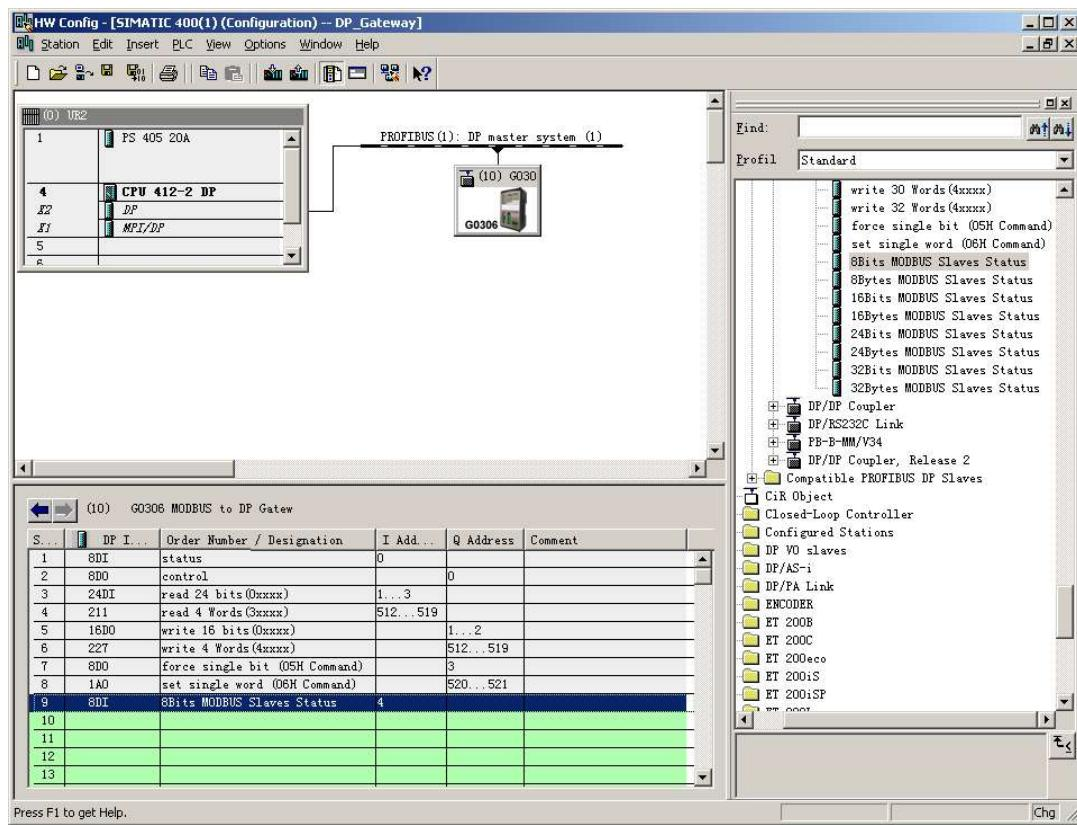

Figure 35 Add“8Bits MODBUS Slaves Status”module
b) Add“8Bits MODBUS Slaves Status”module, as shown in Figure 35: